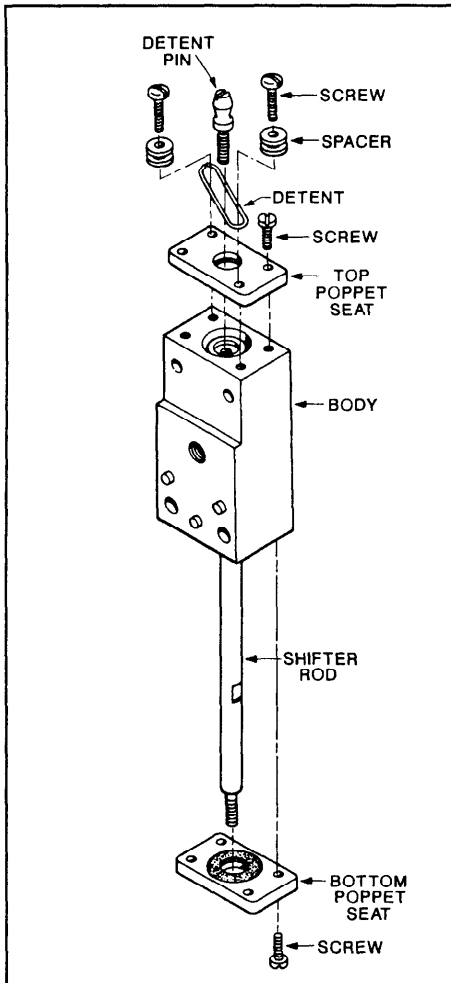
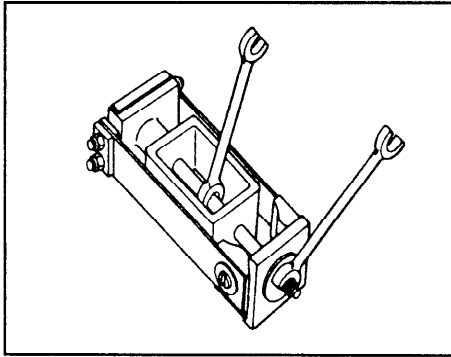
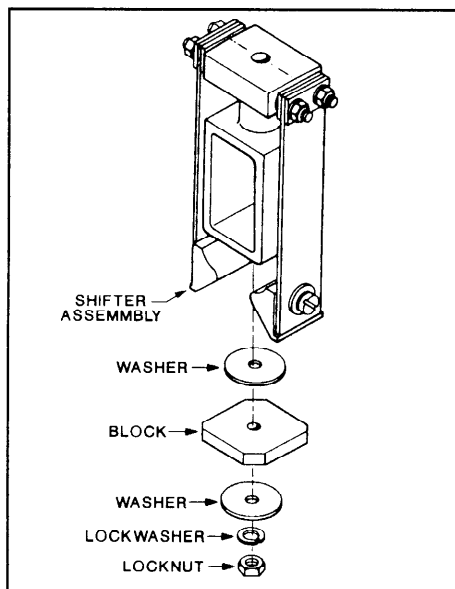

Figure 7.7
Figure 7.9
Figure 7.10
To replace the top poppet seat, perform the following steps while referring to Figure 7.7.
7. Refer to Figure 7.9 and use a wrench on the shifter rod flats to remove the locknut and lockwasher at the bottom of the shifter assembly (see Figure 7.10).
11. Slide the shifter assembly onto the shifter rod (see Figure 7.7) and follow it with the two washers, the shifter block, the lockwasher, and the locknut in the order shown at Figure 7.10.
12. Using a wrench on the wrench slots in the shifter rod (see Figure 7.9) torque the locknut 45-50 in.-lbs (5-6 N-m).